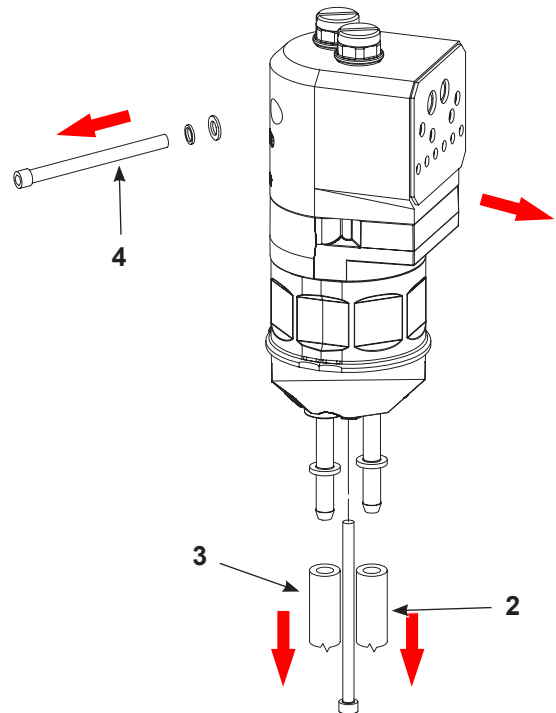
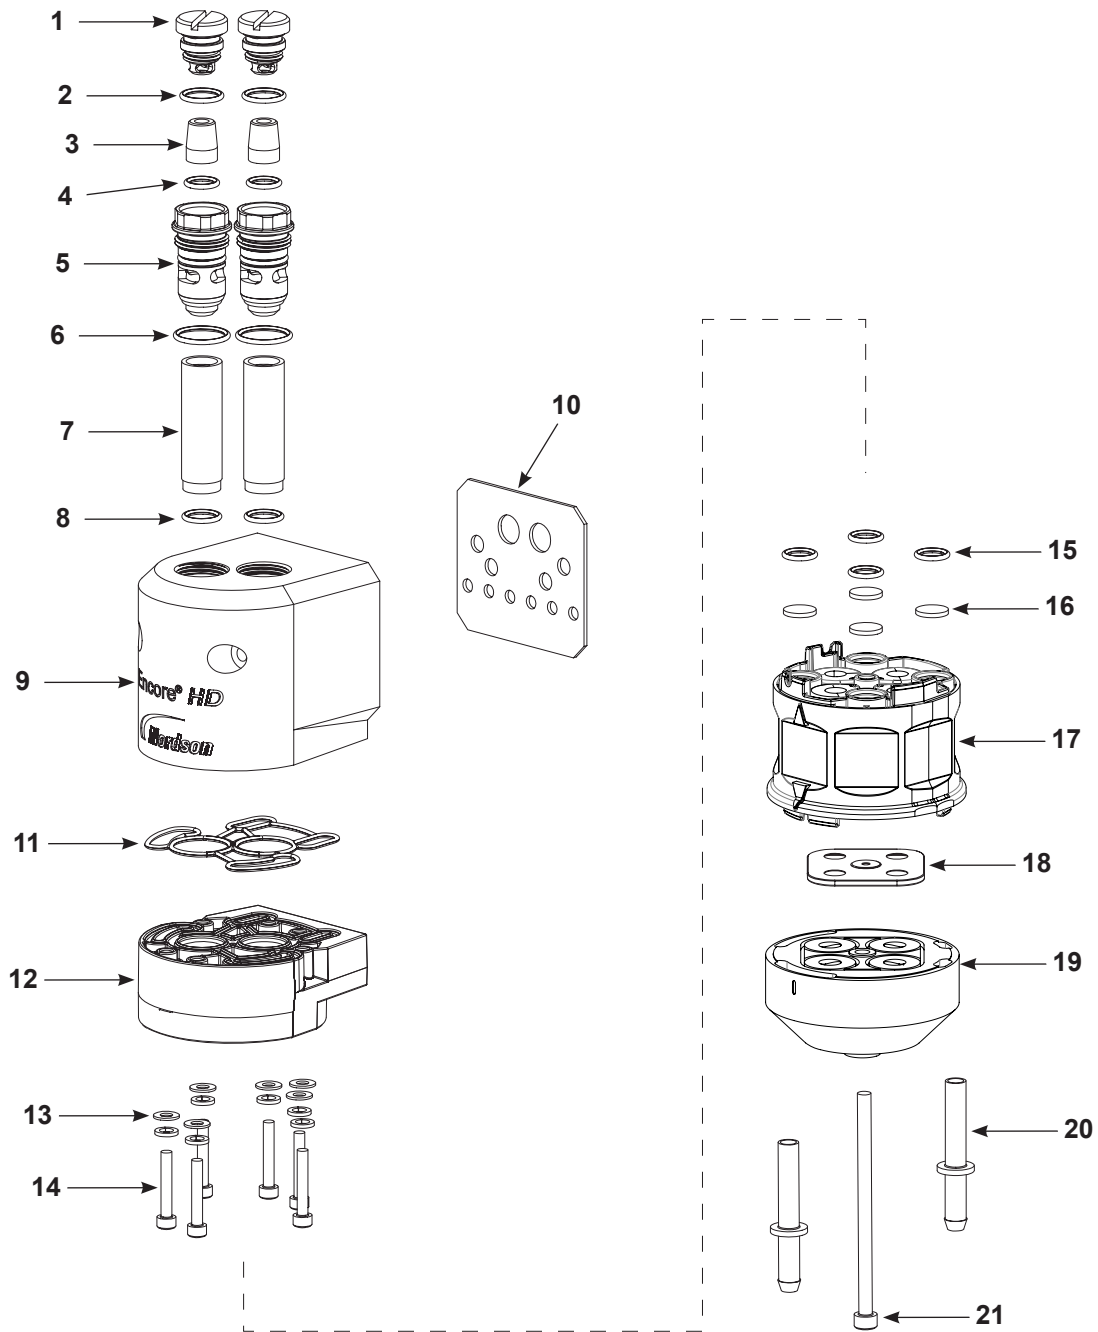

Figure 19 Standard Pump Disassemble Preparation
Figure 20 Pump Disassembly (Encore HD Shown)
NOTE: Any time the pump is disassembled, the Y block gasket (item 19 in Figure 20) must be replaced.
2. See Figure 19. Disconnect the inlet (2) and outlet powder tubing (3) from the bottom of the pump.
3. Remove the cabinet mounting hardware securing the pump to the pump panel (4) and move the pump to a clean work surface.
4. See Figure 20. Starting with the fluidizing tubes, disassemble the pump as shown. Gaskets that are glued on do not need to be removed unless they are damaged. Refer to *Replacing Pump Gasket* in the *Repair* section if replacement is needed.